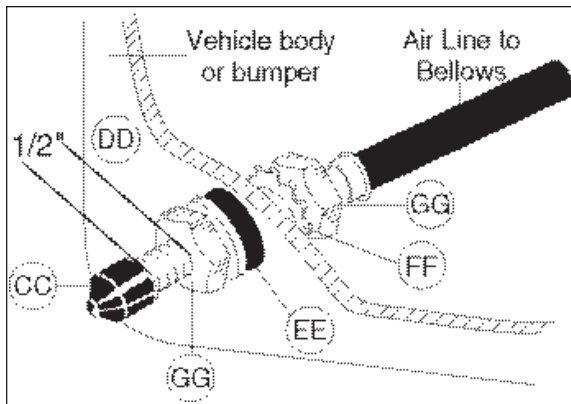

Figure 5
3. Cut the air line assembly (AA) in two equal lengths.
4. Place a  $\frac{5}{16}$ " nut (GG) and a star washer (FF) on the air valve. Leave enough of the inflation valve in front of the nut to extend through the hole and have room for the rubber washer (EE), flat washer (DD), and  $\frac{5}{16}$ " nut (GG) and cap (CC). There should be enough valve exposed after installation - approximately  $\frac{1}{2}$ " - to easily apply a pressure gauge or an air chuck (Figure 5).
5. Push the inflation valve through the hole and use the rubber washer (EE), flat washer (DD), and another  $\frac{5}{16}$ " nut (GG) to secure it in place. Tighten the nuts to secure the assembly in place (Figure 5).